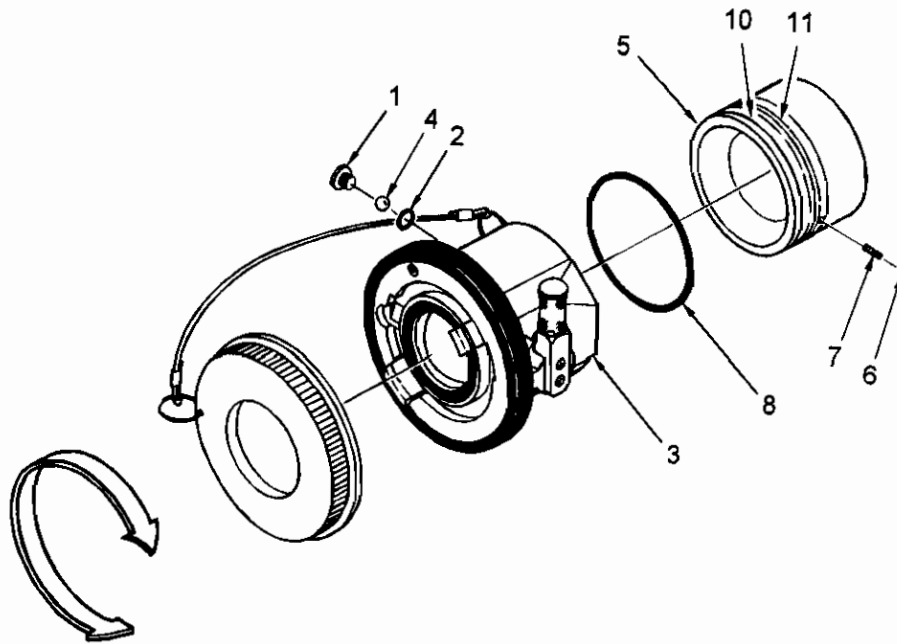

Figure 4-3. Three Inch Unisex Coupling
4.8.2 REPLACE THREE-INCH UNISEX COUPLING. (Refer to figure 4-3.)